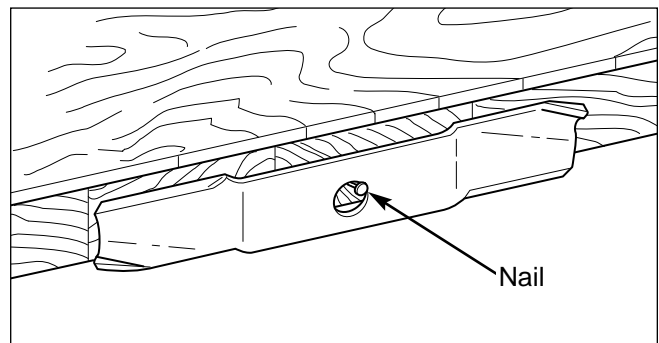

Figure 26. Balancing The Blade
4. Balance the blade as shown in Figure 26. Center the blade's hole on a nail lubricated with a drop of oil. A balanced blade will remain level.